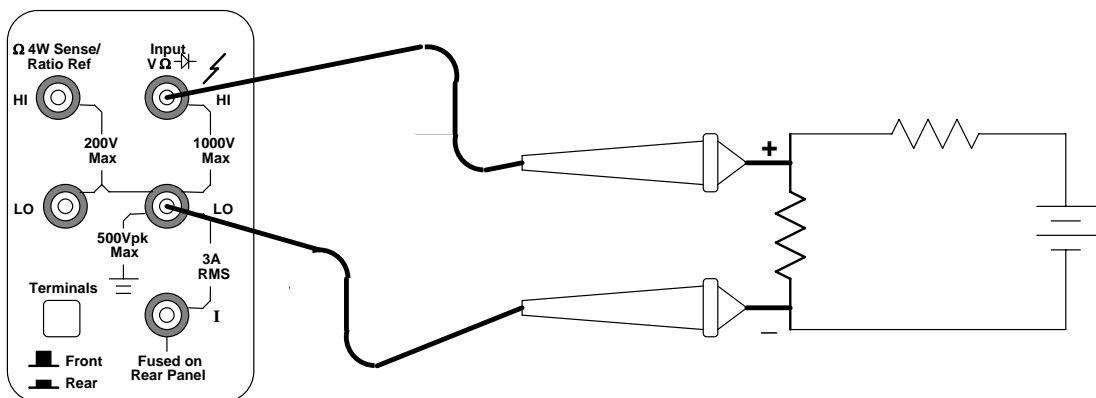

Figure 8. Voltage measurement with the DMM. Note the location of where the leads attach to the DMM.
- Connect leads to the **HI** and **LO** terminals marked **1000 V Max** (see Figure 8). Voltmeters are connected in parallel with the element. We do not need to modify the circuit when making voltage measurements. Since voltages are measured “across” an element, we simply place the leads across the two points in the circuit.
Use the **HI** and **LO** terminals marked **1000 V Max** (as you would for voltage measurements -- Figure 8). The meter can measure frequency from 3 Hz to 300 kHz (period from 0.33 sec to 3.3 μ sec). For frequency and period measurements, ranging applies to the signal's input *voltage*, not its frequency.